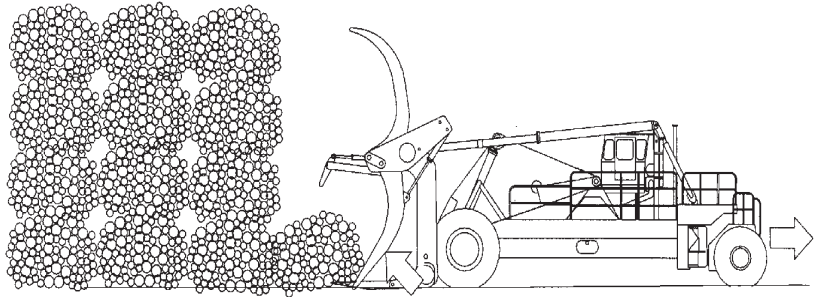

Fig. 5-21
2. To place the bundle, set the bundle in position, raise the auxiliary hold-down arms and push forward with the kickoff arms while backing up. The bundle will slide off of the tines. See Fig. 5-21.